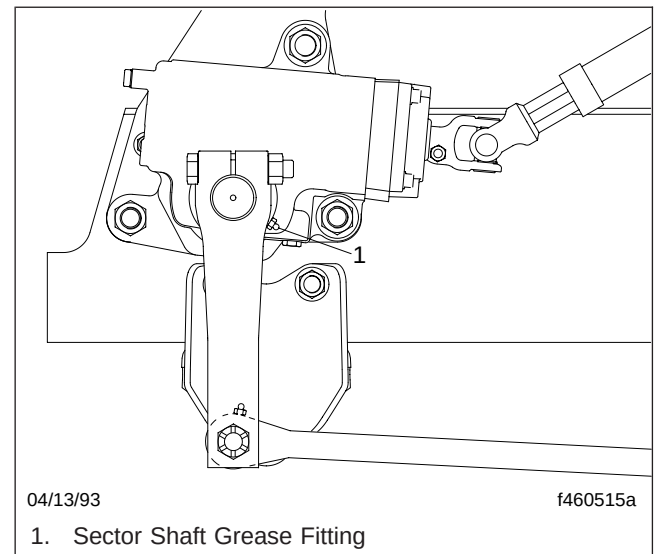

Fig. 4, Sector Shaft Lubricating, Ross TAS Series
1. Wipe off debris from the grease fitting. See Fig. 4.